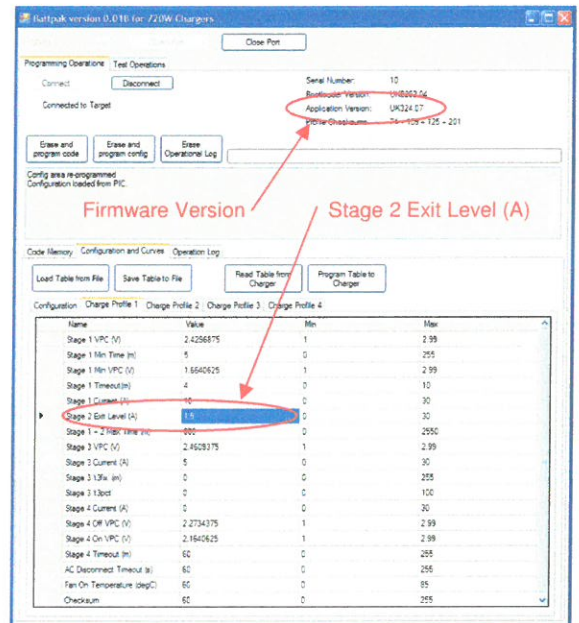

Figure 3
4.3.7. In the upper right hand corner of the Battpak application you will see "Application Version", this is the current version of installed Sevcon Charger Firmware. (see figure 3)
4.5.2. Locate "Stage 2 Exit Level (A)" value setting (see figure 3). Change the value to 1.5 by highlighting the cell and typing 1.5.